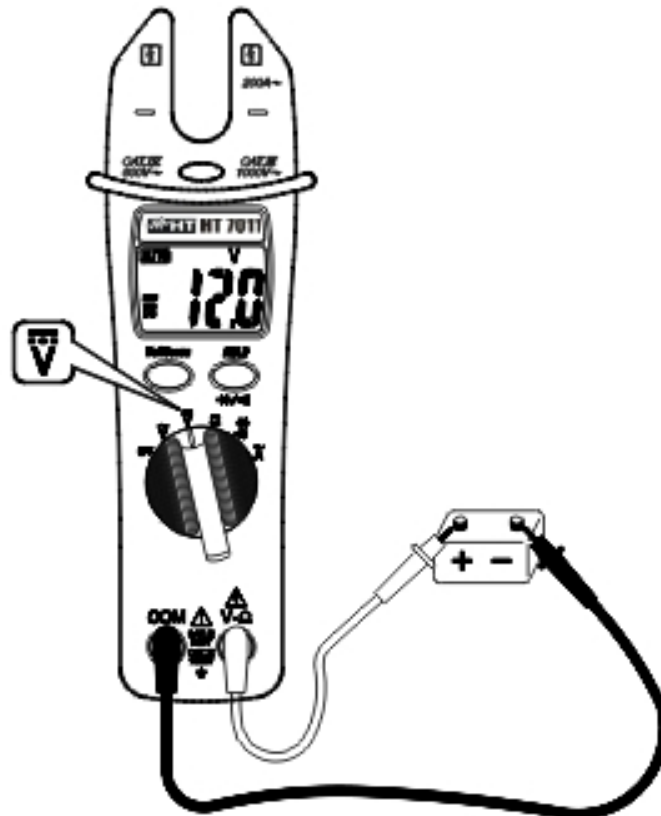

Fig. 2: Taking DC voltage measurement
3. Connect the two long ends of test leads to the desired circuit (see Fig. 2) then reading will be displayed.
5. The "-" symbol at display means that the voltage have an opposite sign respect the connection of Fig. 2).